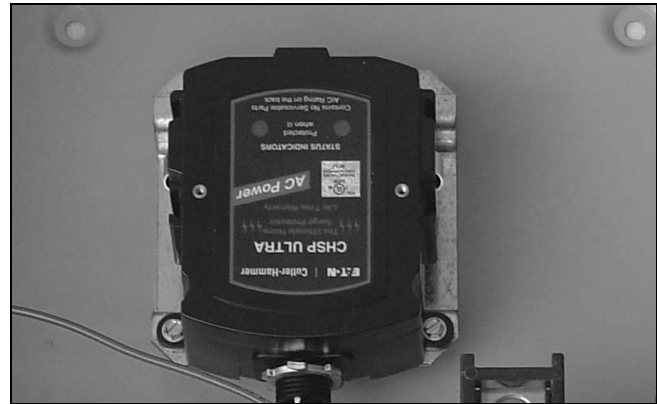

Figure 83. TVSS Installed on the Mounting Bracket.
- Step 3:** Align the TVSS with the holes in the mounting bracket. Secure the TVSS to the mounting brackets using the hardware provided and a flat blade screwdriver or 0.25 in. nut driver. Note that the TVSS wires should facing the ATS back plate and installed components (see Figure 83).